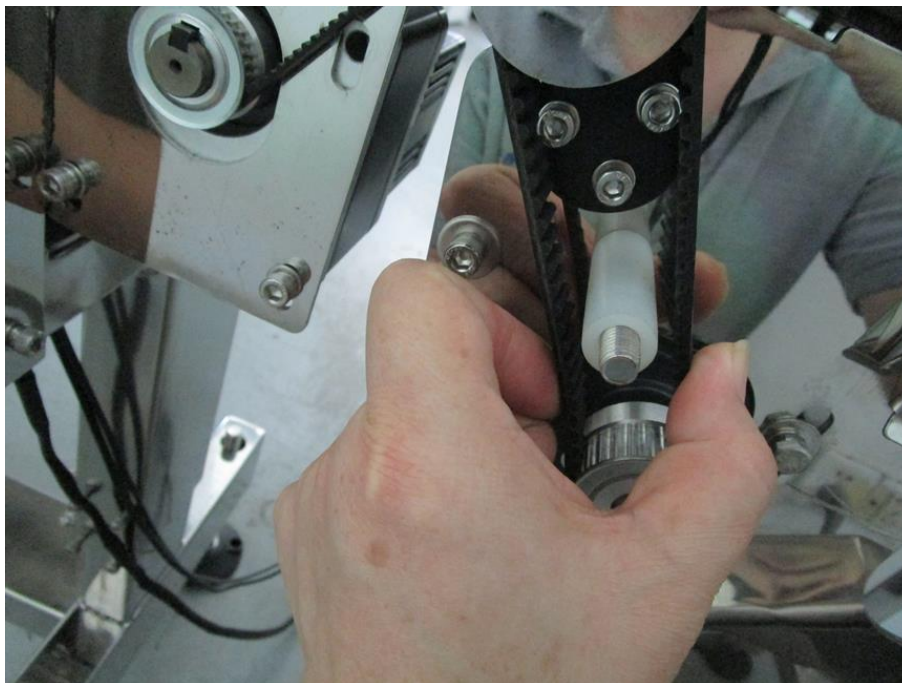

Figure 4-12 Adjusting the timing belt
5) Adjust the tightness of the timing belt by adjusting the position of the motor (Figure 4-12). After adjusting the timing belt to the proper tightness, tighten all the fixing screws on the motor bracket.